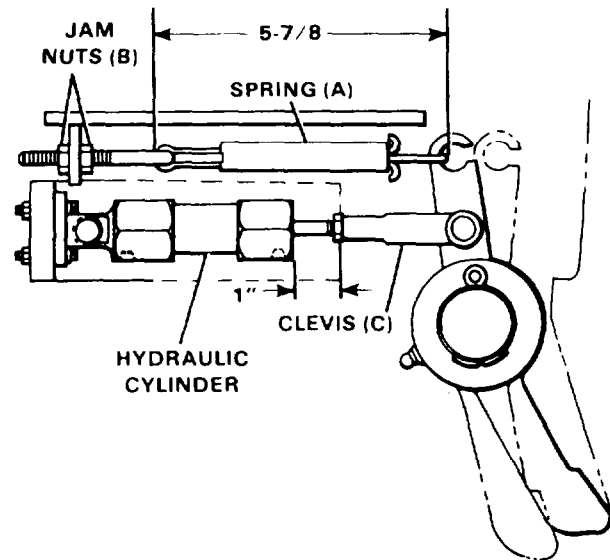

Figure 7E-2. Drum Pawls (2100J1320-1)
D. Install cylinder (07) on mounting bracket (10) and install clevis (05) on pawl. Adjust pawl as explained below.
**ADJUSTMENT.** To adjust the pawl after pawl and/or cylinder replacement, proceed as follows (see Figure 7E-2):